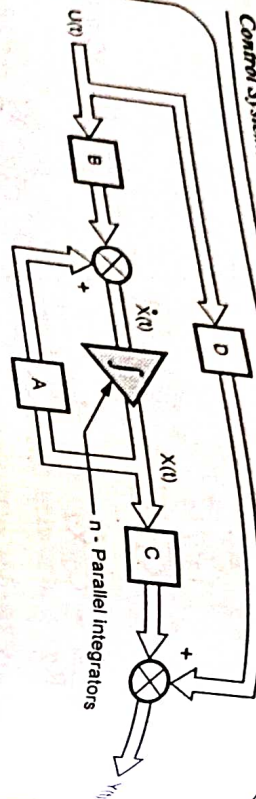

Fig. 5.1 State diagram of MIMO system
- The Fig. 5.1 shows the state diagram of the basic state model